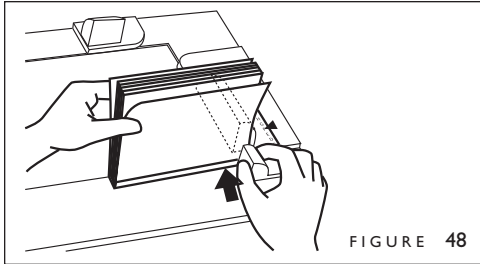

FIGURE 48
10. Measure the bound book block with the Book Width Gauge on the lower right side of the Hardcover Guide to determine the proper Fastback Hardcover width (figure 48).